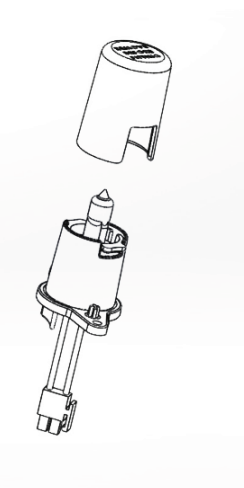

Fig. 4
6. Carefully remove the replacement lamp from the packaging and remove the protective cover from the lamp assembly (fig 4). Ensure that the glass portion of the lamp is not touched as finger marks will damage the lamp resulting in a reduced performance. If accidental damage occurs the surface of the lamp may be cleaned using propan-2-ol.